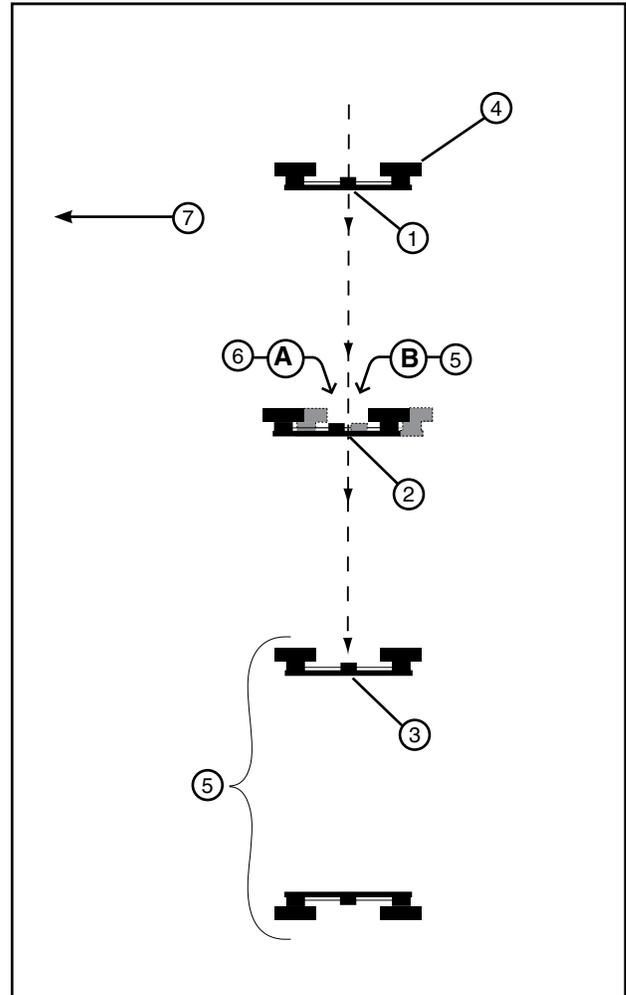

Figure 81-1
2. Begin the alignment procedure from the end tower. Identify the first three towers as 1, 2, and 3. Use towers 1 and 3 to align tower 2. See Figure 81-1.
3. Sight an imaginary center line between the center of the tower drive motor 1 to the center of the tower drive motor 3. See Figure 81-1.
4. Observe the movement of the tower drive motor 2. It should start and stop equal distances from the imaginary center line. See Figure 81-1.